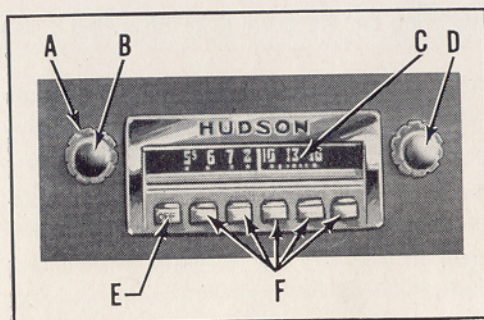

Figure 50
**OFF-ON AND VOLUME CONTROL**—To turn the receiver on, press in any of the push buttons except the one at the extreme left. This will automatically bring in the station for which the button has been set. To regulate the volume, turn volume control knob (B Figure 50) clockwise or counter-clockwise. To turn off the receiver, press in the button (E) at the extreme left.
**TONE CONTROL**—The tone control ring (A) is located behind the volume control knob. Rotating this ring clockwise will emphasize the high notes while turning it to the left will bring out the bass notes.
**MANUAL TUNING**—After the receiver has been turned on by pressing in one of the five push buttons, it may be tuned manually to other stations by turning the manual tuning knob (D). This can be done at any time without disturbing the automatic setting.